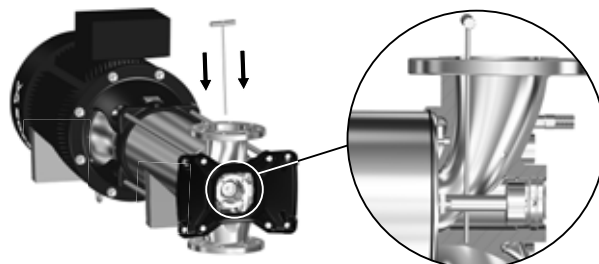

Fig. 16 Holding the pumps shaft (51) with service tool D.
4. Loosen and remove the nut (Note: left-hand thread) (120f) and washer (120e). Use service tool D to hold the pump shaft (51) when tightening. See fig. 16
3. Tighten the nut (120f). Use service tool D to hold the pump shaft (51) when tightening. See fig. 16.